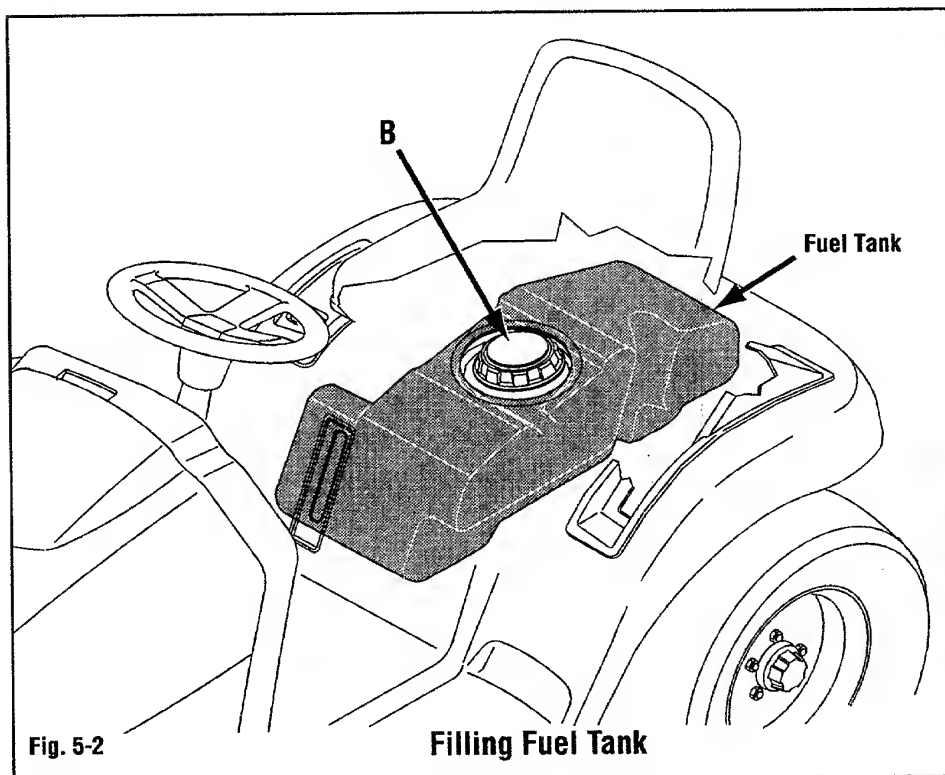

Fig. 5-2
- ☐ 3. Fill fuel tank with a good grade of clean, unleaded gasoline with an octane rating of 85 or higher. Fill fuel tank SLOWLY! Fuel fill cap (B, Fig. 5-2) is LARGE cap located under seat. Lift seat up and forward to access fuel fill. Leave ample room for fuel expansion.